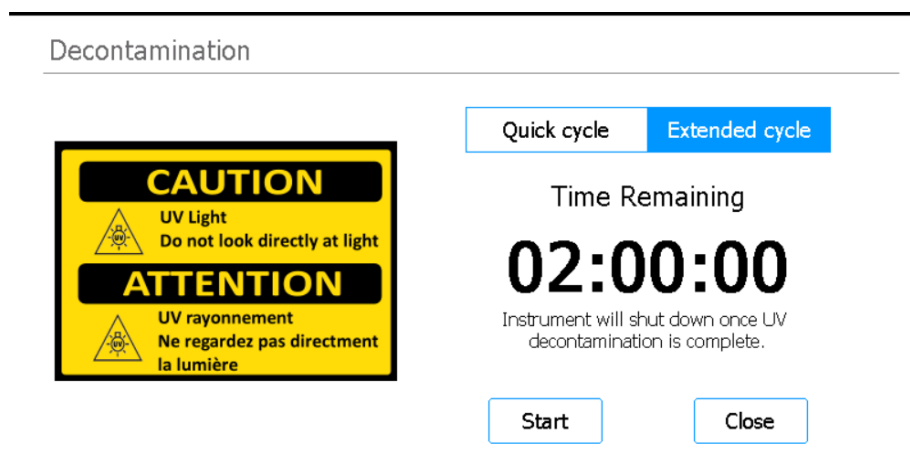

Figure 25 Decontamination screen with Extended cycle selected
- 3 At the top of the screen, select **Extended cycle**, as shown in **Figure 25**.